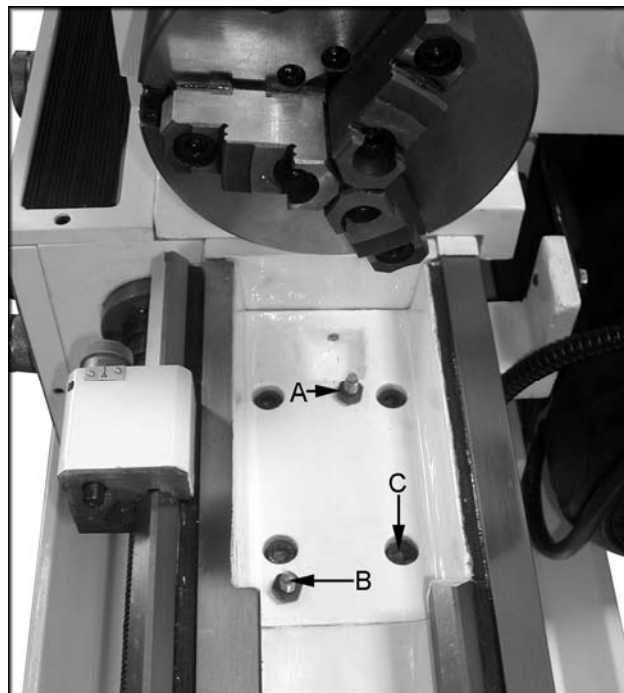

Fig. 20
1. Using an open end wrench, tighten the two hex nuts (A, Fig. 20). This will cause the taper pins (B, Fig. 20) to release. Remove the taper pins.
2. Remove the four hex socket cap screws (C, Fig. 20) with a hex key wrench.
3. Remove nuts (A, Fig. 20) from the taper pins (B, Fig. 20).
5. Install four socket head cap screws (C, Fig. 20) and tighten securely.